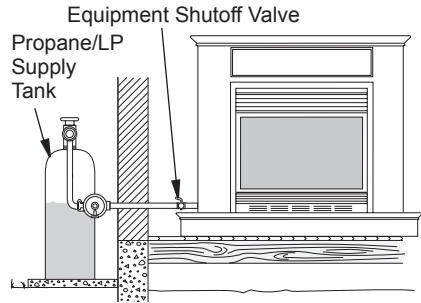

Figure 23 - Checking Gas Joints Shown with Optional Mantel (Propane/LP Gas)
3. Check all joints from gas meter for natural or propane/LP supply to equipment shutoff valve (see Figures 23 and 24). Apply a noncorrosive leak detection fluid to gas joints. Bubbles forming show a leak.
4. Check all joints from equipment shutoff valve to thermostat gas valve (see Figures 23 and 24). Apply a noncorrosive leak detection fluid to gas joints. Bubbles forming show a leak.